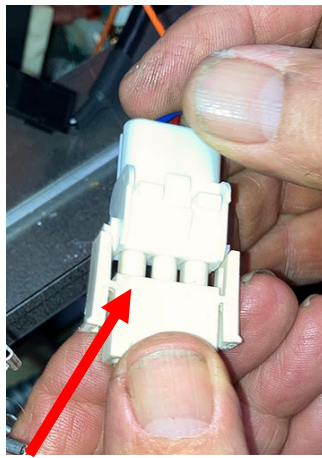

Figure 29
- k. Attach the 3-pin male molex connector to the 3-pin female molex connector from the previous step (see Figure 29).